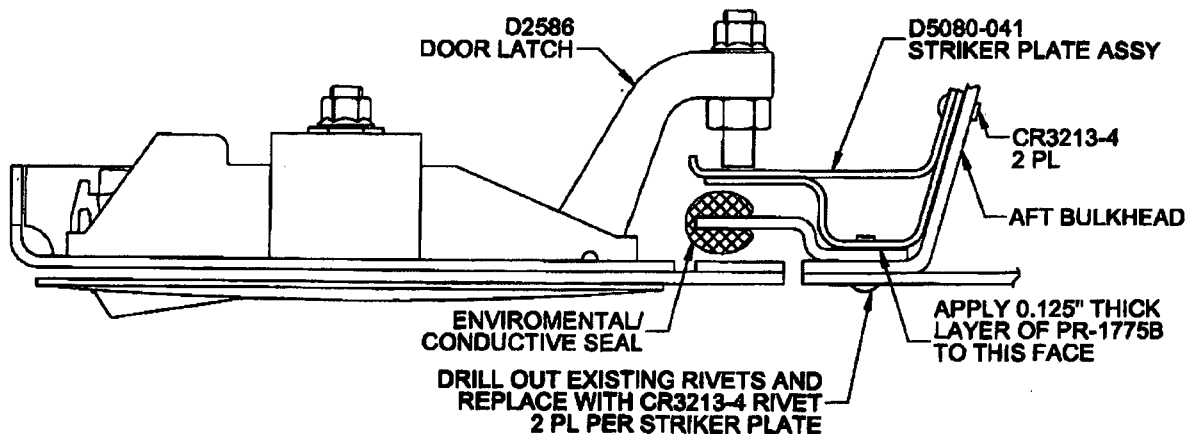

Figure 1 Striker Plate
- 1) Install D350-588-011/-041 per Section 3.1/3.2 of D350-588 as applicable, except do not install D2237 striker plates per item 10 of Section 3.1.
- 10) Apply 0.125" thick layer of PR-1775B ProSeal to the face of D5080-041 per Figure 1.